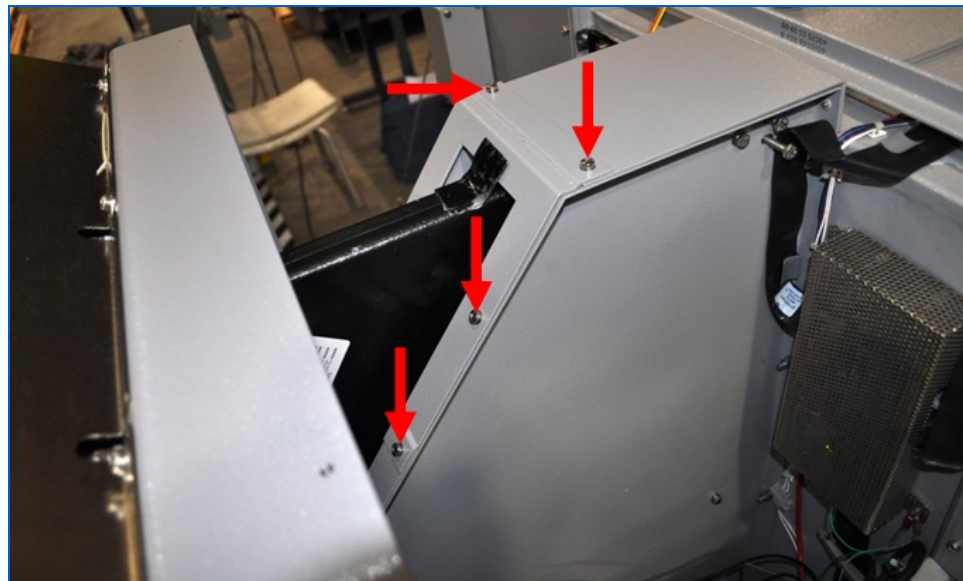

Figure 264: Collimator End Panel Cover Mounting Screws
1. Remove the collimator end panel cover, removing the mounting screws (Figure 264).